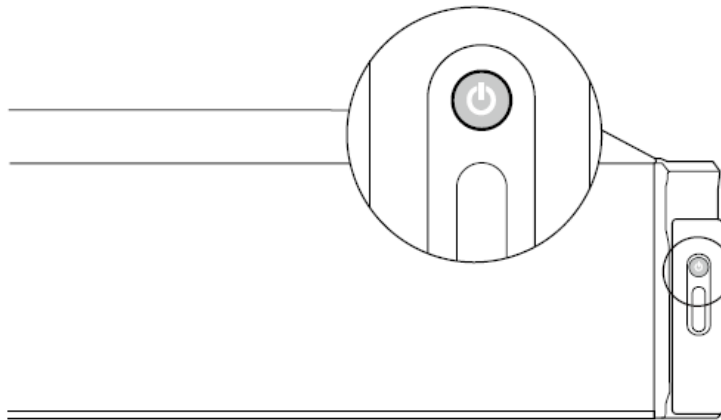

Figure 3-2: Power Button
Step 2: Push the power button (**Figure 3-2**).